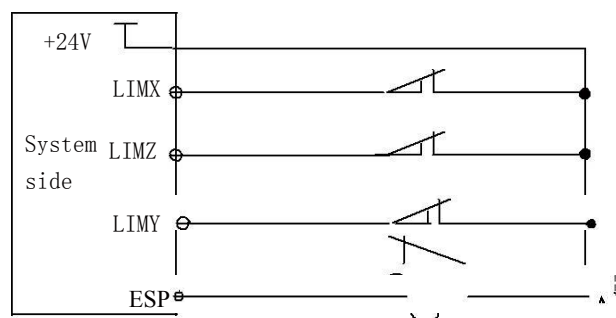

Fig. 2-34B Serial connection between the limit switch and the external emergency stop of each channel
- The limit switch is independently connected with the external emergency stop of each channel, and the connection method is shown as the following figure 2-34B: